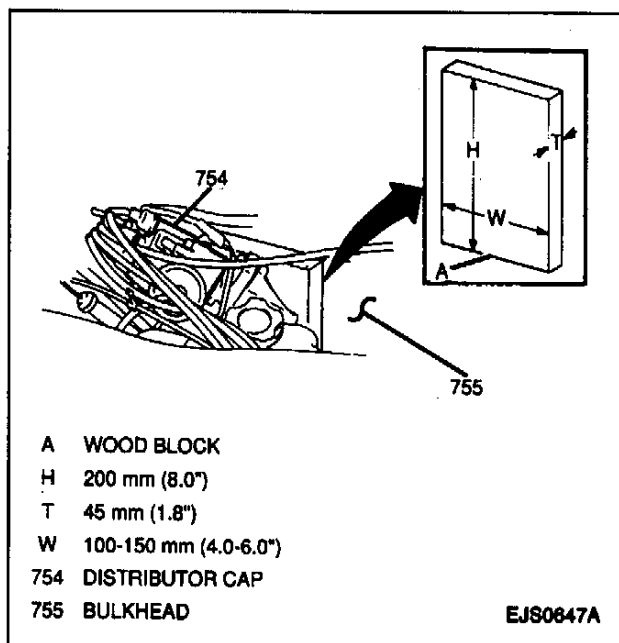

Figure 125—Wood Block Support Installation
44. Lower transmission slowly until engine contacts its support point on the wood block (Figure 125).